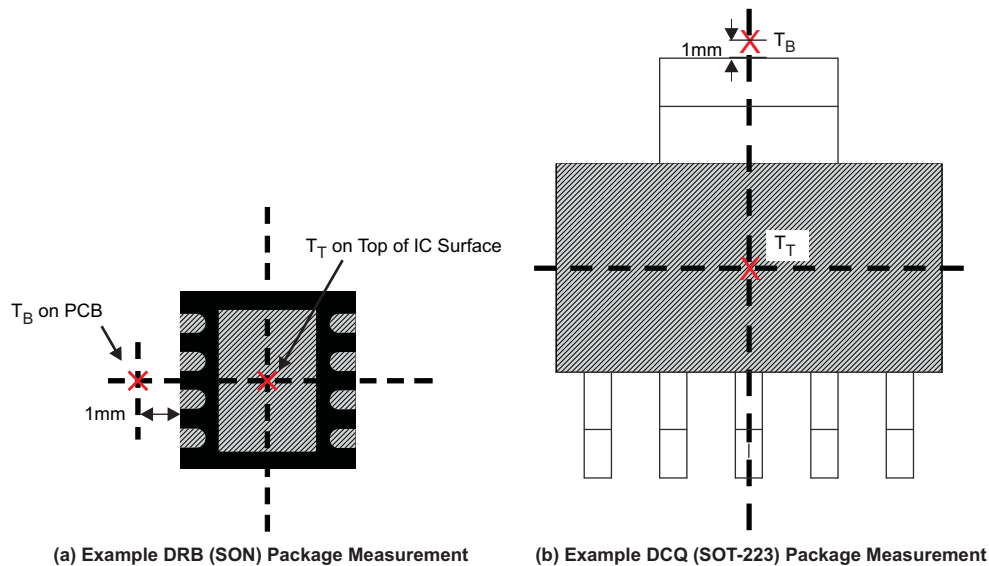

Figure 31. Measuring Point for  $T_T$  and  $T_B$
- $T_B$  is the PCB temperature measured 1 mm away from the IC package on the PCB surface (see Figure 31) (6)